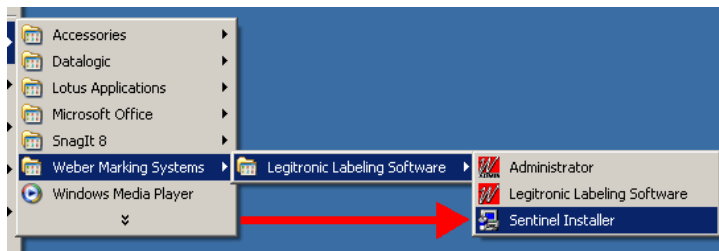

Figure 9a
12. After Legi is installed, go to the Windows Program Group that the installation created and run Sentinel Installer program. (Figure 9a-b)